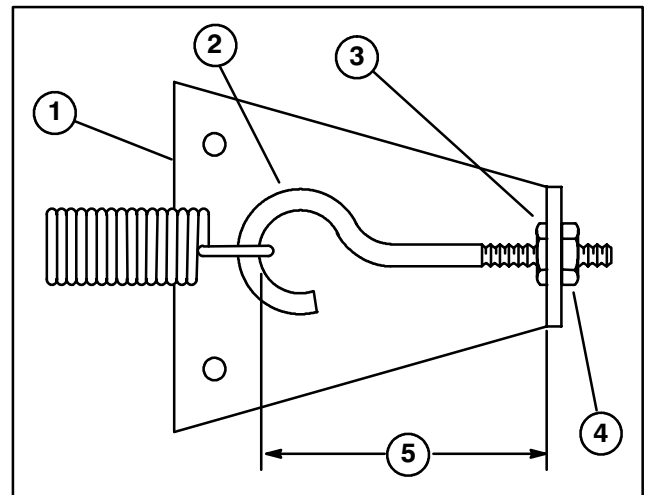

Figure 65
CHECKING AND ADJUSTING TRACTION LINKAGE (Fig. 65)
4. Rotate, clockwise, until distance between inside of eye bolt loop and inside of spring anchor plate is shortened 1/8", as shown in figure 65. Tighten hex nut.